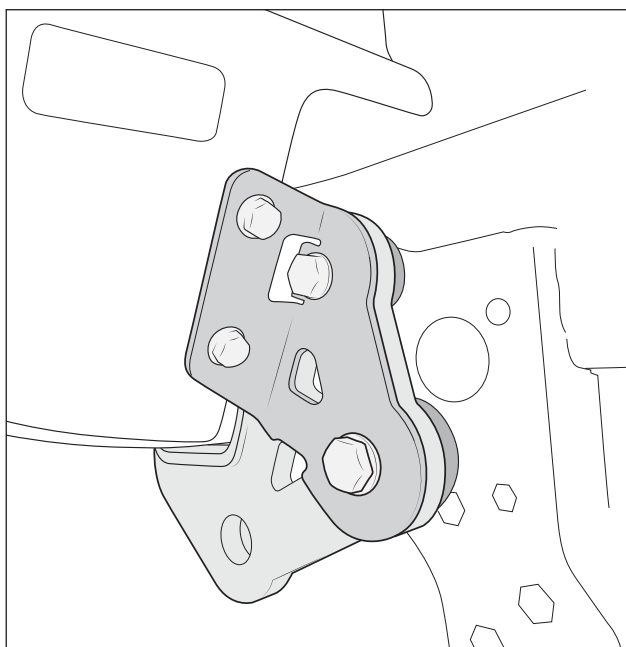

Figure 34
2. Locate the two black M10x45mm hex bolts, washers, and thin 10.7mm (.42") spacers. If equipped with full width EX corners, rotate the corner reinforcement bracket into position. Begin feeding the M10 bolt and washer through from the outside, and sandwich the spacer between the tow loop and bumper reinforcement bracket. Thread the bolt into the factory weld nut in the frame and tighten until snug. On EX Corners, install M8 bolts and washers fromn corner kit and torque to 20 ft-lb (fig. 34).Torque M10 tow loop bolts to 30 ft-lb (fig. 35). Torque side M12 tow loop hardware to 90ft-lb.